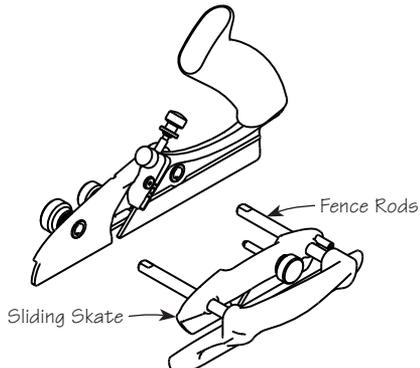

Figure 3: Installing the sliding skate.
2. Slip the sliding skate onto the fence rods, as shown in **Figure 3**.